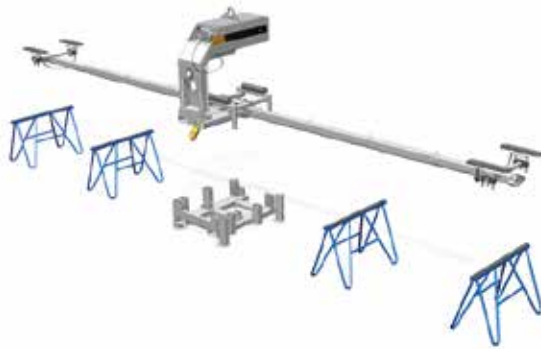

Fig. 4.3.1 RotaBoy
- When handling the panels, follow the recommended procedure (refer to the instructions on page 53) or use rotatable vacuum jack RotaBoy (Fig. 4.3.1).